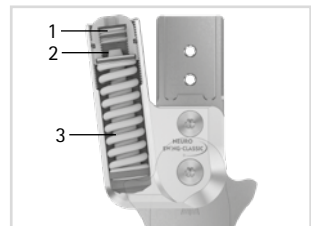
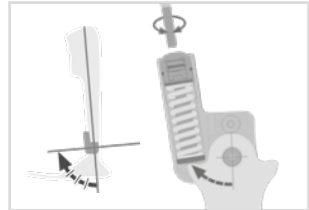
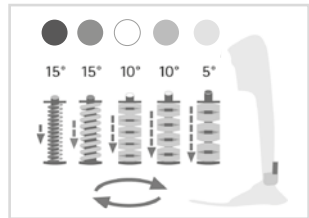

fig. 18
fig. 20
fig. 21
The alignment of the orthosis can be adjusted with the alignment screw (1; fig. 18). Note that no more than 10° fine adjustment is allowed. Do not preload the spring unit as this may damage the system joint.
- In order to increase the angle, screw in the spring unit via the alignment screw (fig. 20). Make sure that the joint angle is not outside the degree markings.
- In order to decrease the angle, unscrew the spring unit via the alignment screw (fig. 20). Make sure that the joint angle is not outside the degree markings.
The range of motion in plantar flexion or dorsiflexion is infinitely adjustable with the motion limiting screw (2; fig. 18). Each spring unit determines the maximum possible range of motion. They are available for 5°, 10° and 15° range of motion. By screwing in the motion limiting screw, the respective maximum possible range of motion can be limited or completely blocked (fig. 20).
The spring force can be changed by exchanging the spring units (3; fig. 18). Insert a spring unit into the spring duct that corresponds with the required spring force. There are five spring units with spring forces ranging from normal to extra strong (fig. 21). Note that the spring unit determines the maximum possible range of motion.